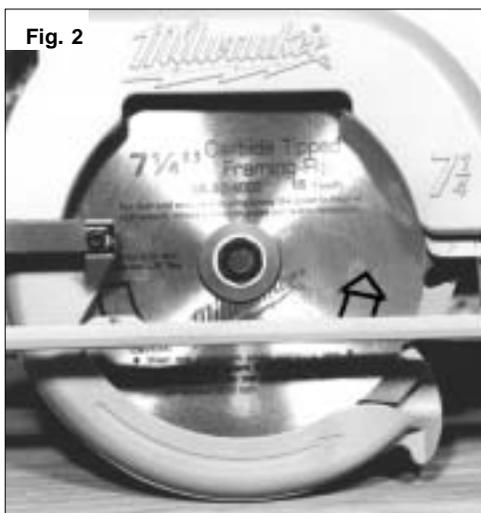

Fig. 2
4. To install a blade, place the blade on the spindle with the teeth pointing in the same direction as the arrow on the lower guard (Fig. 2). Release the lower guard lever.